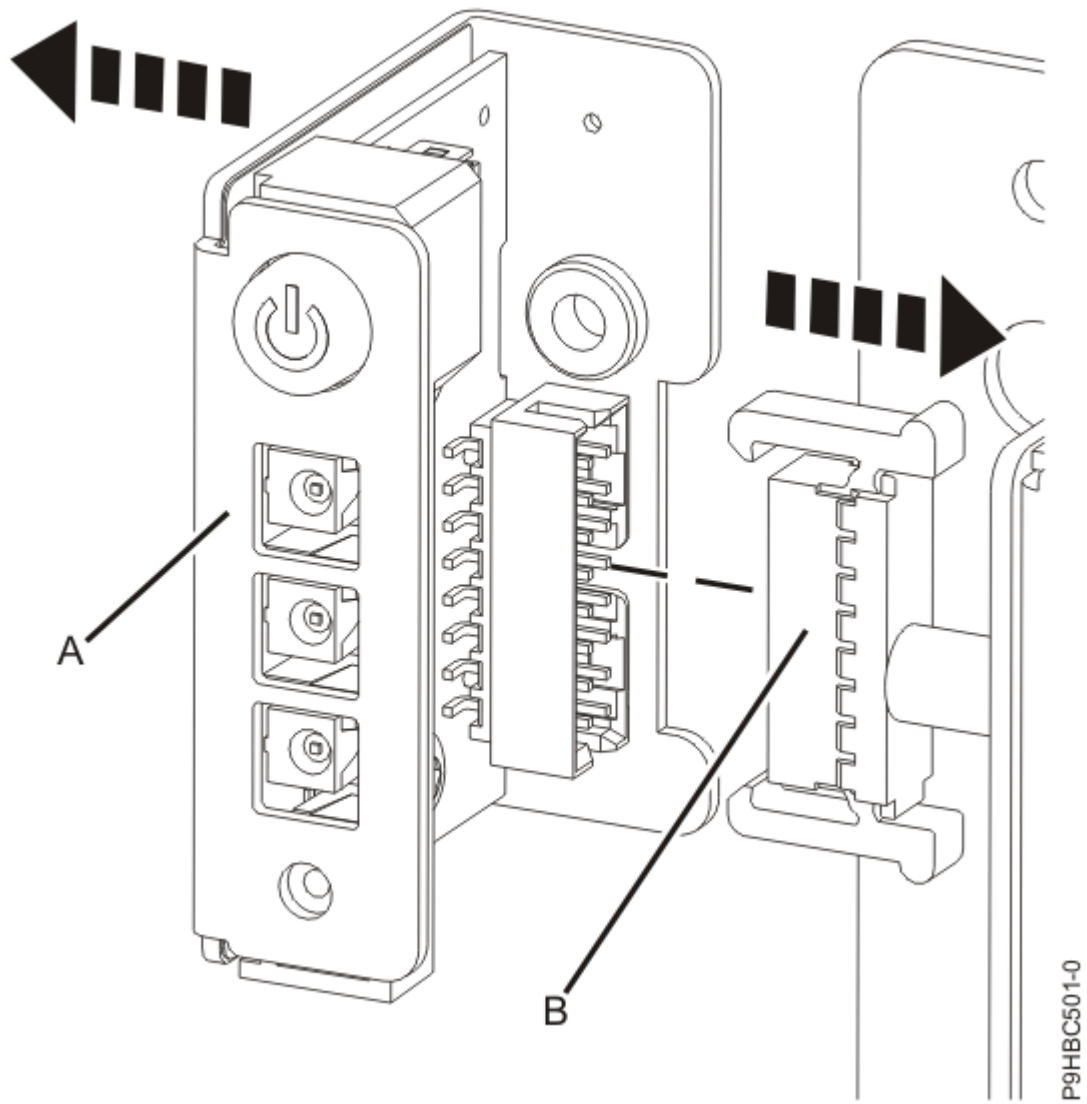
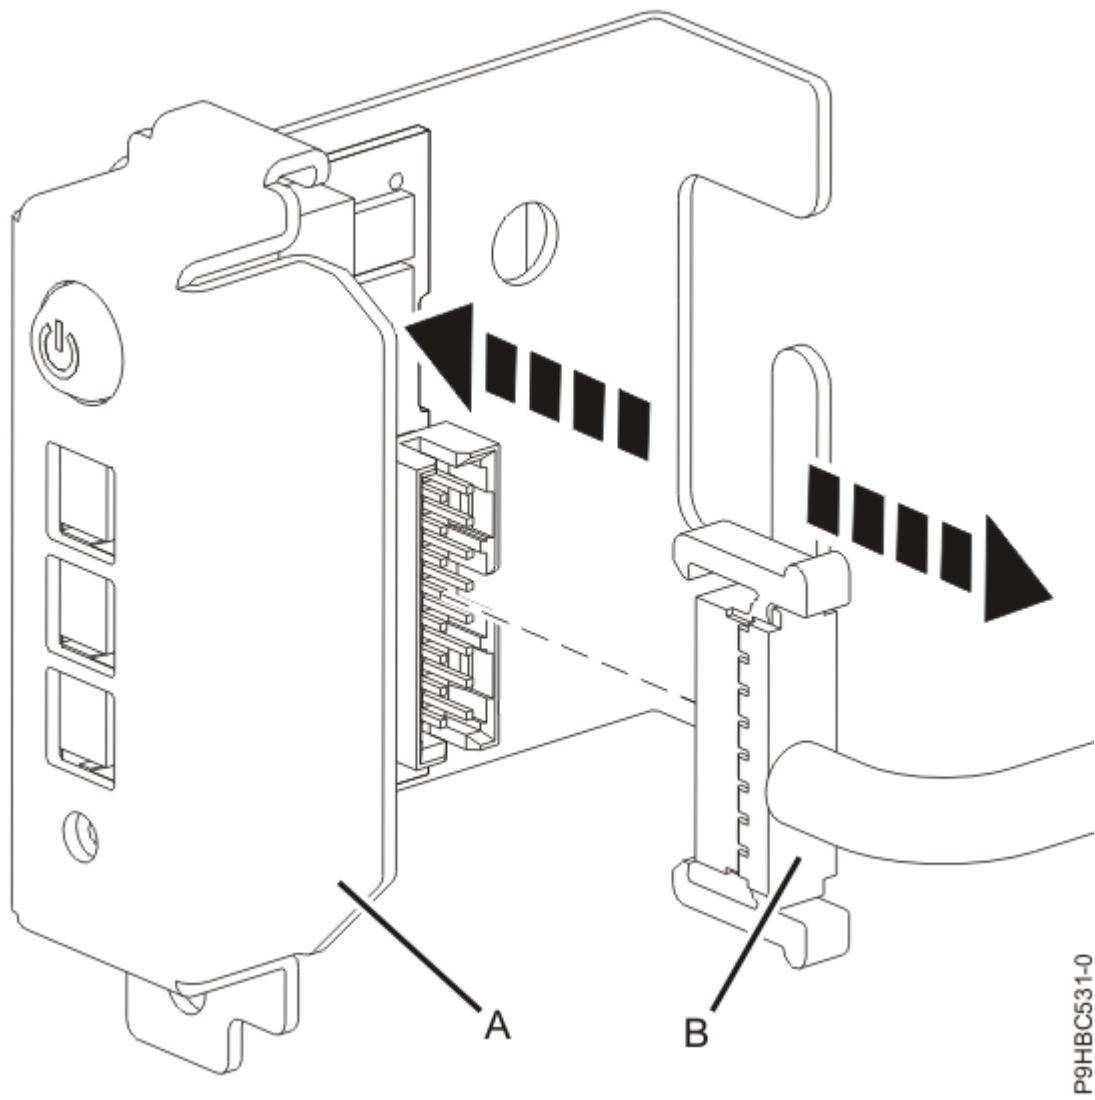

Figure 69. Disconnecting the control panel from the cable for a rack-mounted system
Figure 70. Disconnecting the control panel from the cable for a stand-alone system
8. Disconnect the control panel (A) from the cable (B) as shown in Figure 69 on page 73 or Figure 70 on page 74.